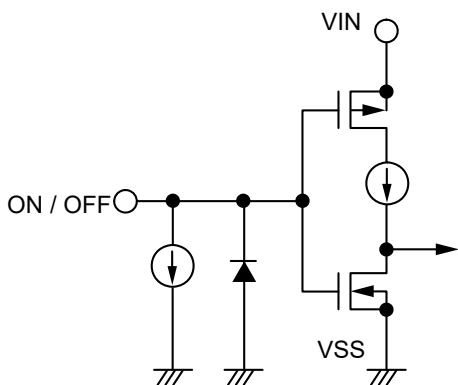

Figure 16 S-1313xxxH Series A / C type
Note that the current consumption increases when a voltage of 0.25 V to $V_{IN} - 0.3$ V is applied to the ON / OFF pin. The ON / OFF pin is configured as shown in **Figure 16** and **Figure 17**.
*2. Note that the IC's current consumption increases as much as current flows into the constant current of 0.1 μ A typ. when the ON / OFF pin is connected to the VIN pin and the S-1313xxxH Series A / C type is operating. (refer to **Figure 16**).